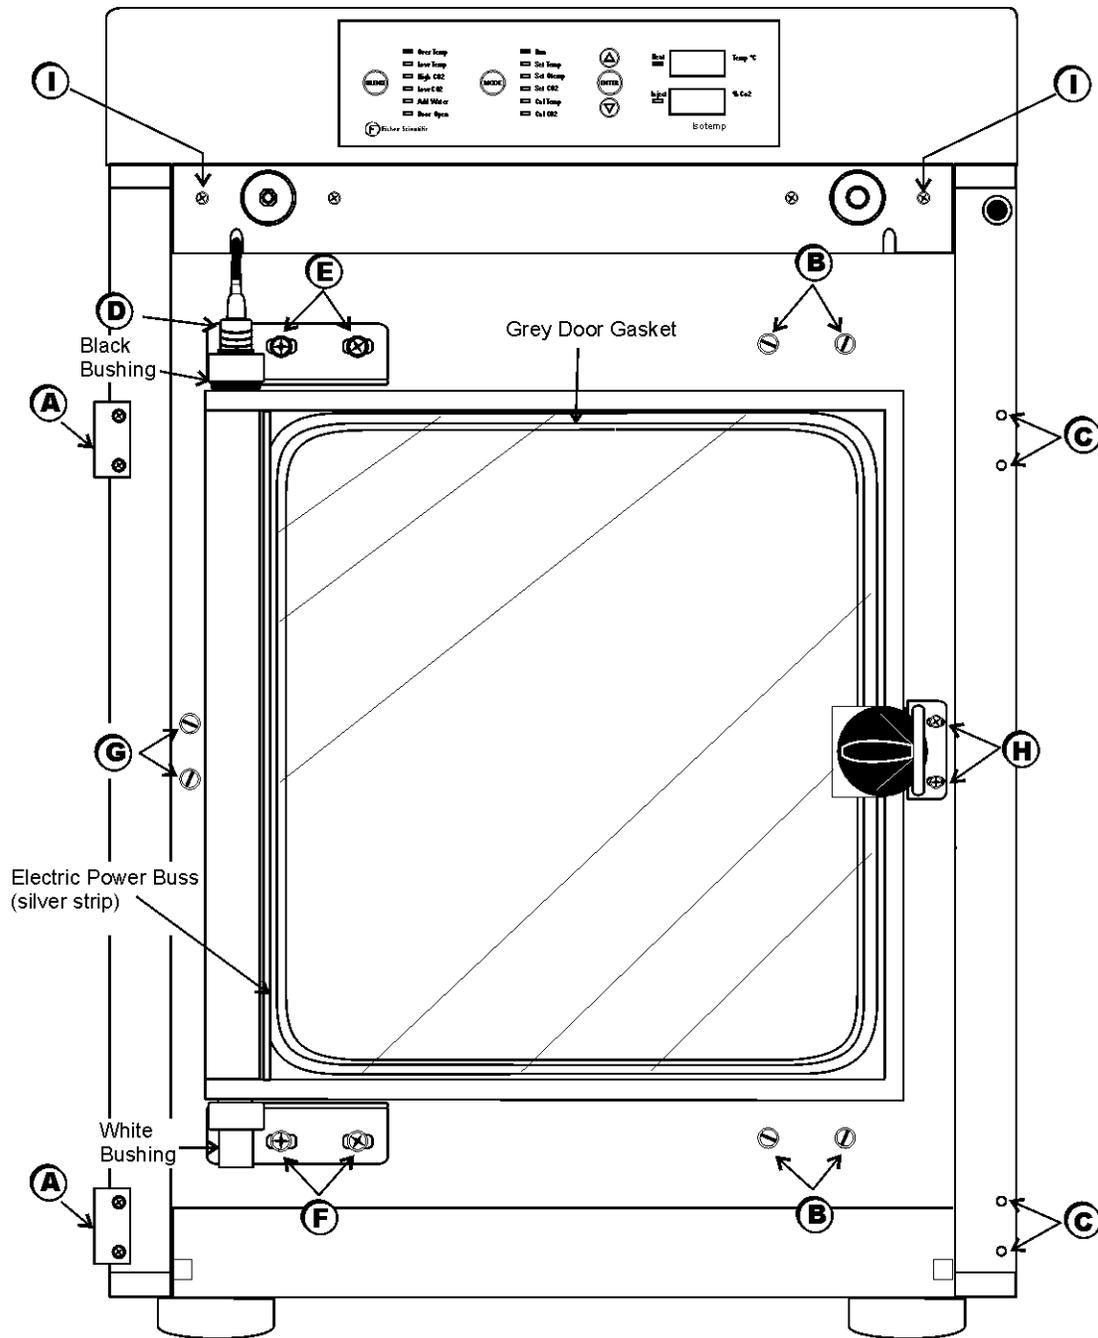

Figure 4-7 A
- The shoulder of the bushing must be on top as shown in Figure 4-7. Install the black plastic bushing into the hinge just removed and which will be the top hinge when the door is reversed. Refer also to Figure 4-5.